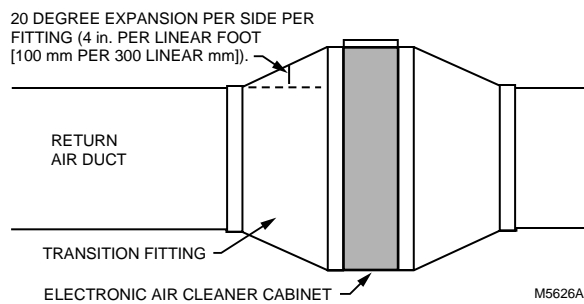

Fig. 4. Change duct size gradually to minimize turbulence.
Transitions are needed when the duct is a different size than the air cleaner cabinet. Gradual transitions reduce air turbulence and increase efficiency. Limit expansion to no more than 20 degrees or about 4 in. per running foot (100 mm per 300 linear mm) on each side of a transition fitting. See Fig. 4.
- ❑ Install a transition when the furnace and air cleaner openings are different sizes. See Fig. 4.
- Install a transition when the opening in the air cleaner cabinet and the duct are different sizes. See Fig. 4.